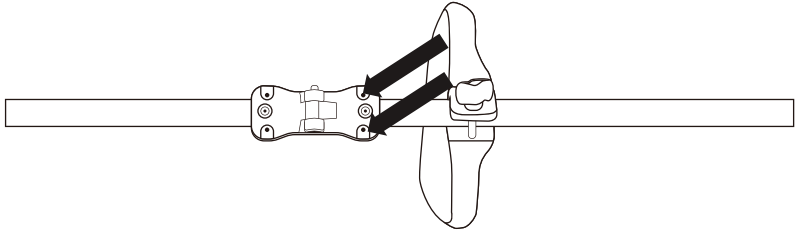

Fig. 1
- Align the folding middle shaft and secure it with two screws using the provided hexagon socket spanner as shown. The two parts of the middle shaft need to be aligned parallel, or the shafts will not fit. (Fig. 1)